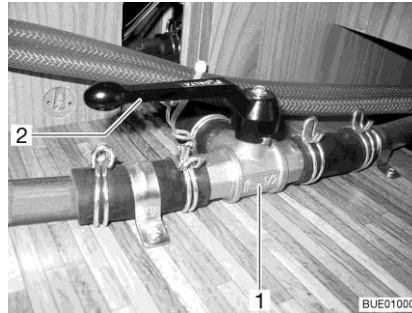

Fig. 161 3-way valve
- Set the lever (Fig. 161,2) of the 3-way valve (Fig. 161,1) parallel to the straight flow direction (Fig. 161).
- Set the lever (Fig. 161,2) of the 3-way valve (Fig. 161,1) transverse to the straight flow direction.